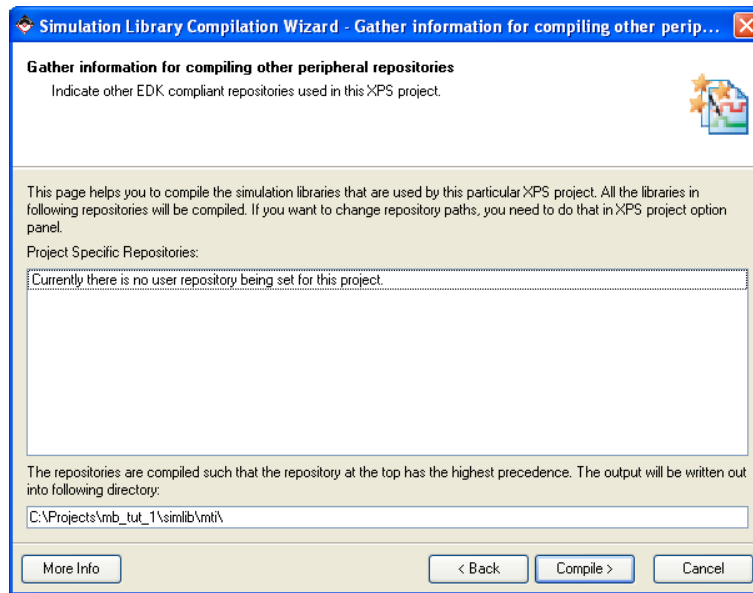

Figure 9: Simulation Library Compilation Wizard - Compiling other peripherals
- The next screen of the wizard shown in Figure 9 is used for the compilation options for third party/user peripherals that need to be compiled with the library. We do not have such peripherals in our design so we can move to the next screen. **Click Next**.